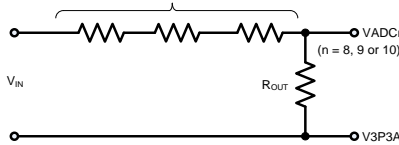
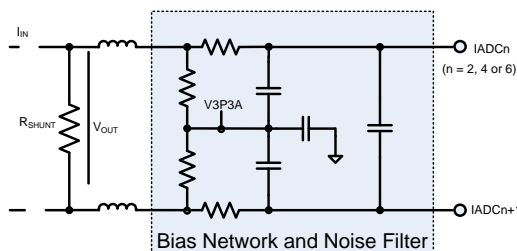
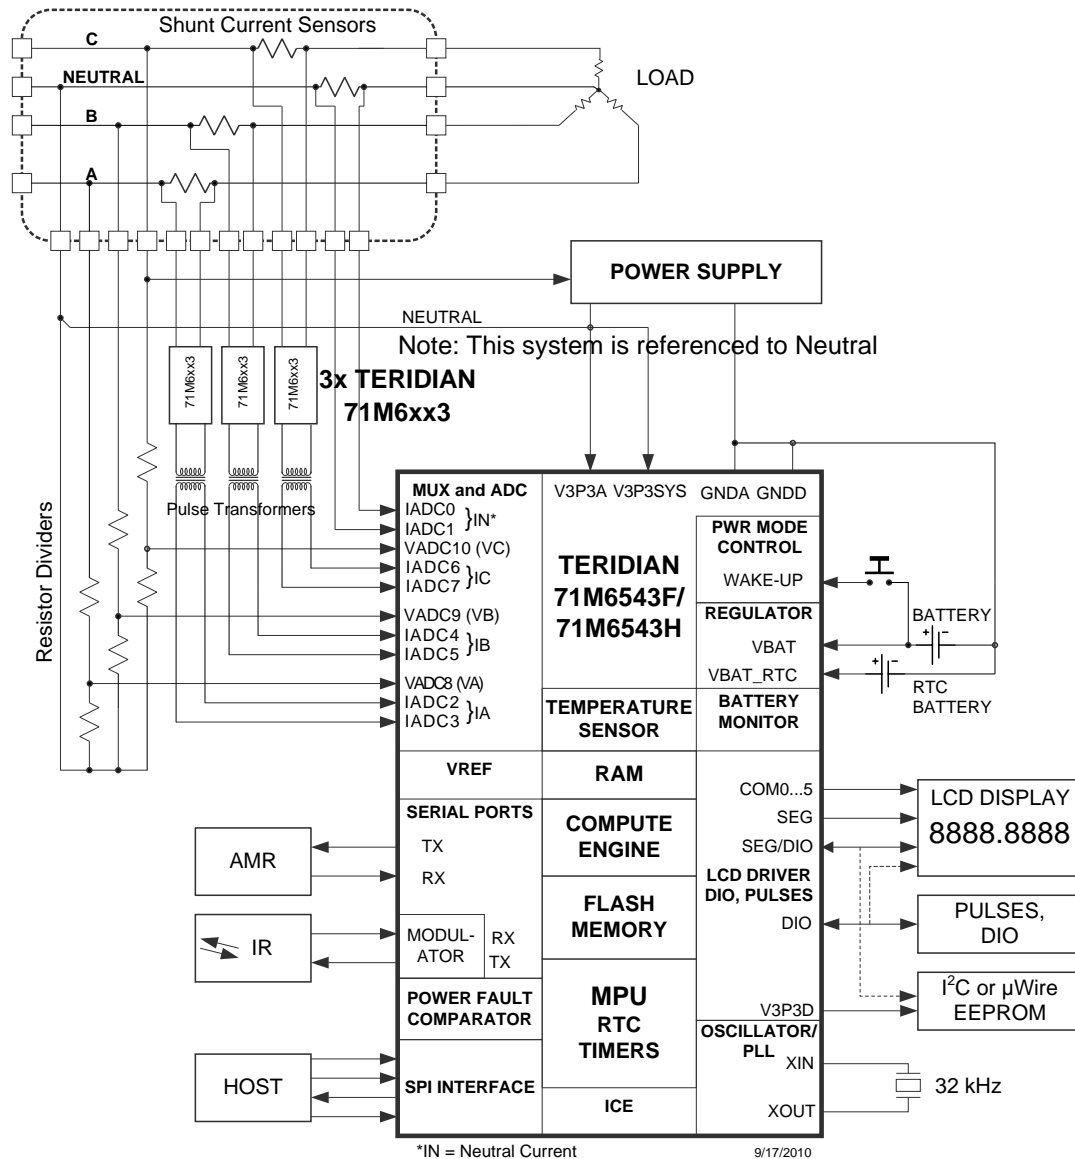
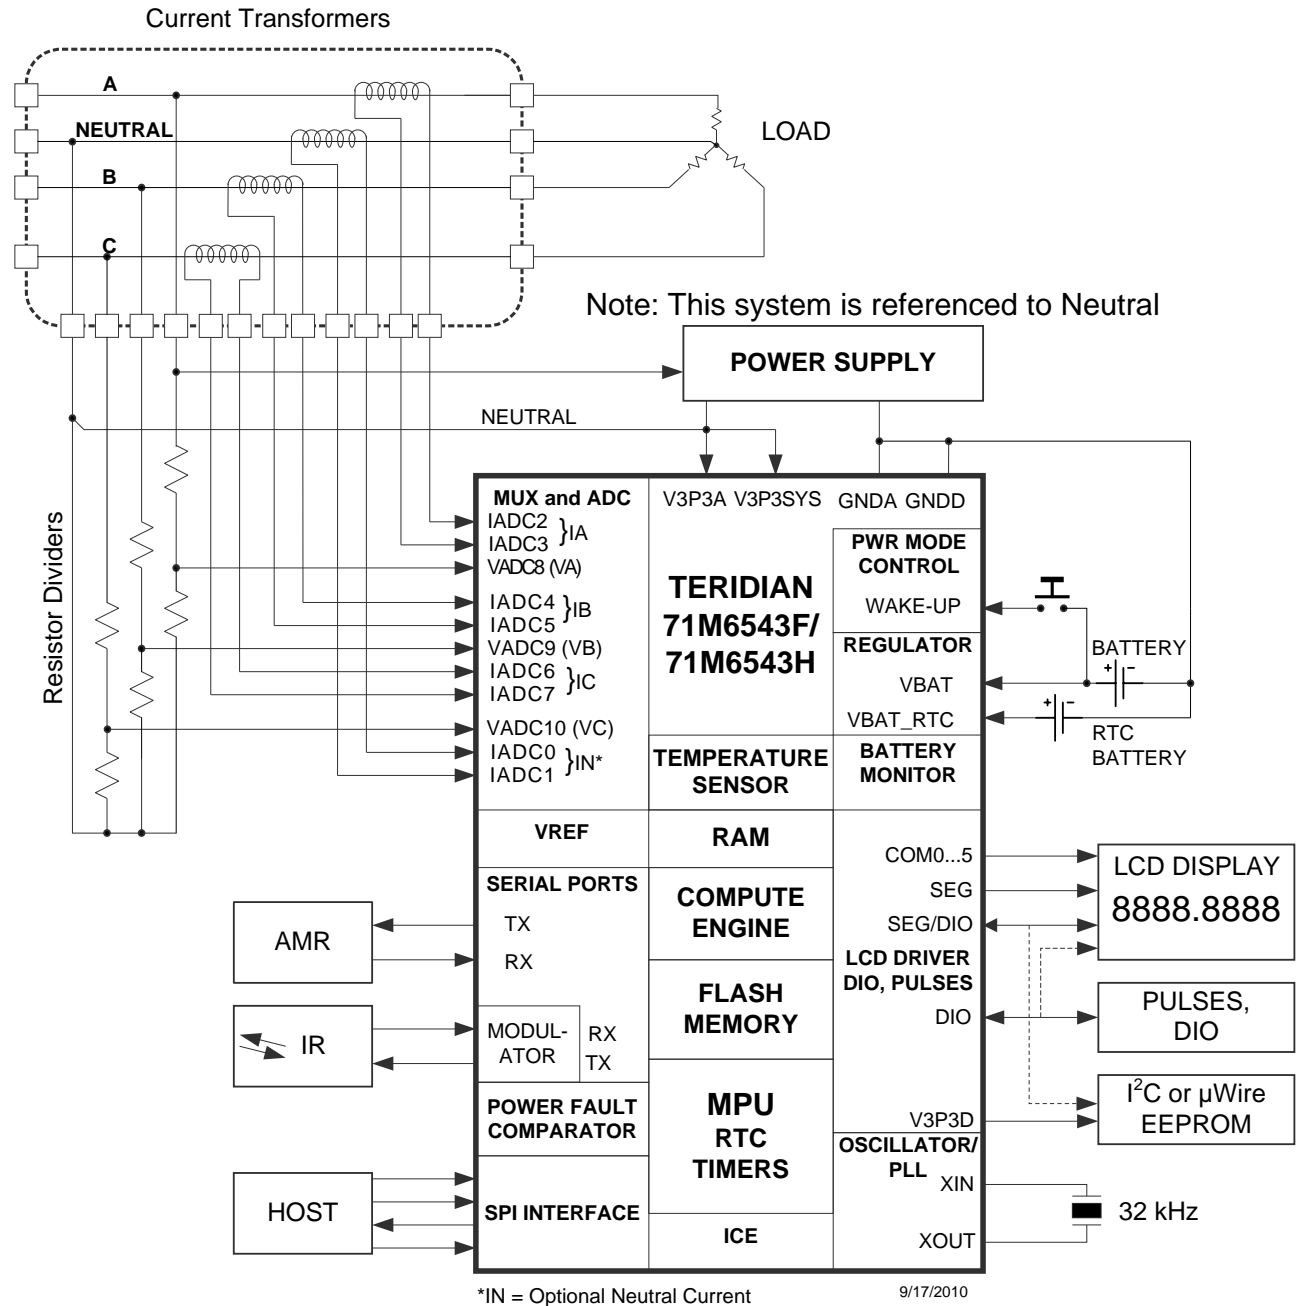

Figure 27: Resistive Voltage Divider (Voltage Sensing)
Figure 30: Differential Resistive Shunt Connections (Current Sensing)
Figure 31: System Using Three-Remotes and One-Local (Neutral) Sensor
Figure 32. System Using Current Transformers
Figure 27 through Figure 30 show voltage-sensing resistive dividers, current-sensing current transformers (CTs) and current-sensing resistive shunts and how they are connected to the voltage and current inputs of the 71M6543F/H. All input signals to the 71M6543F/H sensor inputs are voltage signals providing a scaled representation of either a sensed voltage or current.
Figure 31 shows a typical connection for current shunt sensors; using the 71M6xx3 (polyphase) isolated sensors. Note that one shunt current sensor is connected without isolation, which is the neutral current sensor in this example (connected to pins IADC0-IADC1). Each 71M6xx3 device is electrically isolated by a low-cost pulse transformer. The 71M6543F/H current sensor inputs must be configured for remote sensor communications, as described in 2.2.8 71M6xx3 Isolated Sensor Interface (page 22). Flexible remapping using the I/O RAM registers  $MUXn\_SEL[3:0]$  allows the sequence of analog input pins to be different from the standard configuration (a corresponding CE code must be used). See Figure 2 for the AFE configuration corresponding to Figure 31.
Figure 32 shows a polyphase system using four current transformers to support optional Neutral current sensing for anti-tamper purposes. The Neutral current sensing CT can be omitted if Neutral current sensing is not required. The system is referenced to Neutral (i.e., the Neutral rail is tied to V3P3A and V3P3SYS).
This section discusses metrology temperature compensation for the meter designs where current shunt sensors are used in conjunction with Teridian's 71M6xx3 remote isolated sensors, as shown in Figure 31.
Referring to Figure 31, the VADC8 (VA), VADC9 (VB) and VADC10 (VC) voltage sensors are always directly connected to the 71M6543F/H. Thus, the precision of the voltage sensors is primarily affected by VREF in the 71M6543F/H. The temperature coefficient of the resistors used to implement the voltage dividers for the voltage sensors (see Figure 27) determine the behavior of the voltage division ratio with respect to temperature. It is recommended to use resistors with low temperature coefficients, while forming the entire voltage divider using resistors belonging to the same technology family, in order to minimize the temperature dependency of the voltage division ratio. The resistors must also have suitable voltage ratings.
Table 67 shows the five  $GAIN\_ADJ_x$  equation output storage locations and the voltage or current sensor channels for which they compensate for the 1 Local / 3 Remote configuration shown in Figure 31.
**Table 67:  $GAIN\_ADJ_n$  Compensation Channels (Figure 2, Figure 31, Table 1)**
This section discusses metrology temperature compensation for meter designs where Current Transformer (CT) sensors are used, as shown in Figure 32.
Referring to Figure 32, the VADC8 (VA), VADC9 (VB) and VADC10 (VC) voltage sensors are directly connected to the 71M6543F/H. Thus, the precision of the voltage sensors is primarily affected by VREF in the 71M6543F/H. The temperature coefficient of the resistors used to implement the voltage dividers for the voltage sensors (see Figure 27) determine the behavior of the voltage division ratio with respect to temperature. It is recommended to use resistors with low temperature coefficients, while forming the entire voltage divider using resistors belonging to the same technology family, in order to minimize the temperature dependency of the voltage division ratio. The resistors must also have suitable voltage ratings.
**Table 68: GAIN\_ADJx Compensation Channels (Figure 3, Figure 32, Table 2)**